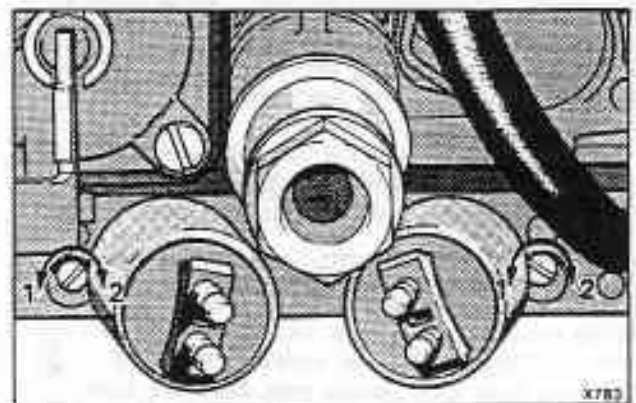

Fig. K11-27 Carburetter idle mixture adjusting screws
2. Adjust each idle screw (see fig. K11-27) by equal amounts (to maintain the correct air balance) using a screwdriver with a blade width of less than 5 mm (0.20 in). Turn the adjusting screws clockwise to weaken the mixture and reduce the CO level.